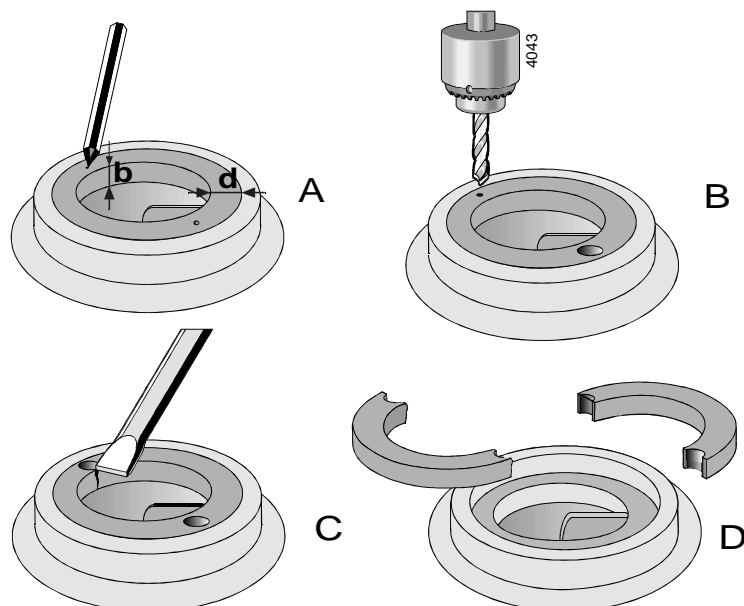

figure 24 Disassembly of the casing wear ring.
- 1 Measure the thickness (D) and the width (B) of the ring (see figure 24 A).
- 2 Make a centre hole in the middle of the edge of the ring at two opposite points (See figure 24 B).
- 3 Use a drill with a diameter just a little bit smaller than the thickness (D) of the ring and drill two holes in the ring (see figure 24 C). Don't drill deeper than the width (B) of the ring. Take care not to damage the fitting edge of the pump casing.
- 4 Use a chisel to cut the remaining part of the ring thickness. Now you can remove the ring in two parts from the pump casing (see figure 24 D).